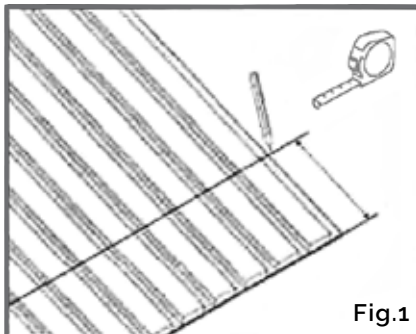

Fig.1
- Mark the length along the wood slats with a pencil. ( fig: 1)